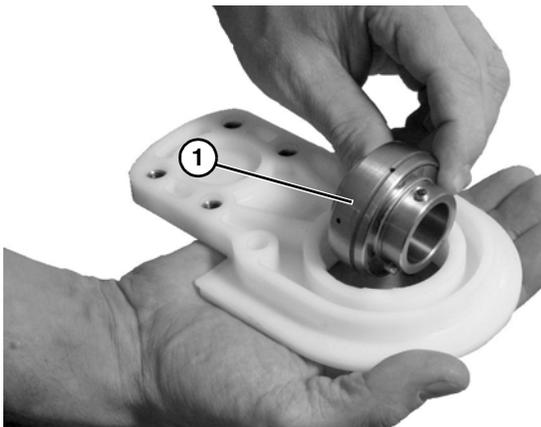

Figure 54
2. Twist the bearing out (**Figure 54, item 1**).